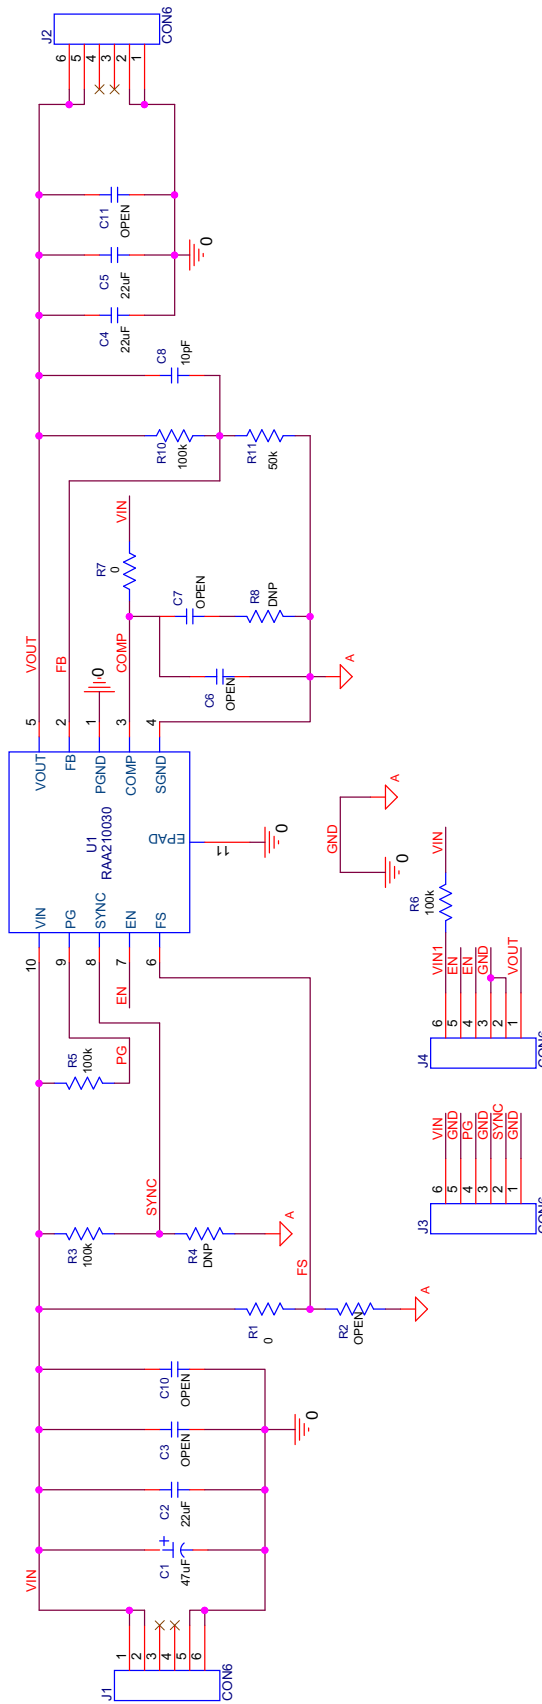

Figure 7. RTKA210030DR0000BU Schematic
Table 1. RTKA210030DR0000BU Design Guide Matrix (See Figure 7)
1. Disable the module by connecting the jumper across 3 and 4 on J4 for the EN pin as shown in Figure 2 and Figure 7.